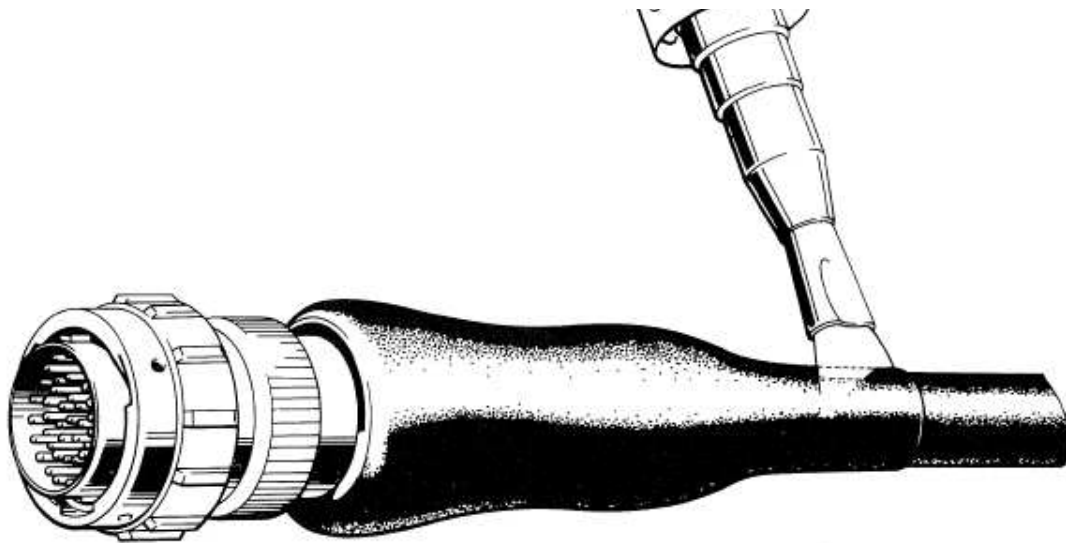

Figure 10 Rayaten moulded part recovery
- 5.14. Continue to recover the Rayaten Moulded Part starting at the connector end applying heat evenly around the Rayaten Moulded Part working towards the cable end until it is fully recovered. Remove any excess adhesive. See Figure 10.